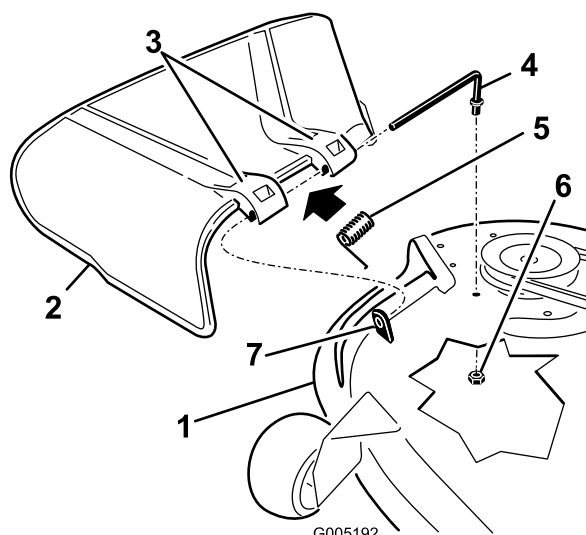

Figure 71
- Locate items shown in Figure 71.
- Remove the nut (3/8 inch) from the rod under the mower (Figure 71).
- Slide the rod out of the short stand-off, spring, and grass deflector (Figure 71). Remove the damaged or worn grass deflector.
- Replace the grass deflector (Figure 71).
- Place the spring on the rod, with end wires down, and between the grass deflector brackets. Slide rod through second grass deflector bracket (Figure 71).
- Insert rod at front of grass deflector into short stand-off on deck. Secure rear end of rod into the mower with a nut (3/8 inch) (Figure 71).